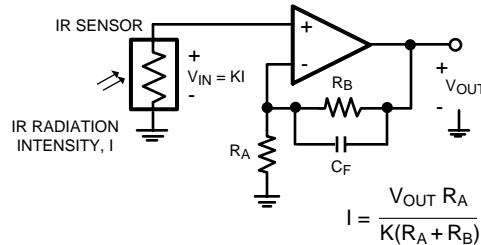

Figure 51. IR Radiation Sensor
The low input bias current and low input referred noise of the LM6211 make it ideal for sensor interfaces. These circuits are required to sense voltages of the order of a few μV , and currents amounting to less than a nA , and hence the op amp needs to have low voltage noise and low input bias current. Typical applications include infrared (IR) thermometry, thermocouple amplifiers and pH electrode buffers. Figure 51 is an example of a typical circuit used for measuring IR radiation intensity, often used for estimating the temperature of an object from a distance. The IR sensor generates a voltage proportional to I , which is the intensity of the IR radiation falling on it. As shown in Figure 51, K is the constant of proportionality relating the voltage across the IR sensor (V_{IN}) to the radiation intensity, I . The resistances R_A and R_B are selected to provide a high gain to amplify this voltage, while C_F is added to filter out the high frequency noise.